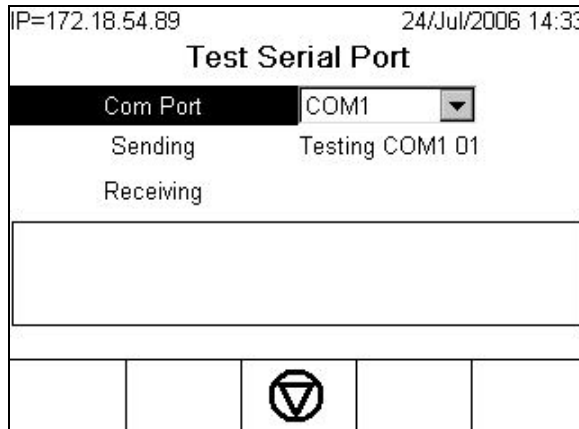

Figure 3-26: Serial Test Screen
- Press the START softkey  and a data string is output repeatedly approximately once every 3 seconds (Figure 3-26). The data is: [Testing COMx: nn] where “x” is the COM port and “nn” is an incrementing value beginning at 00 and continuing to 99. Each transmission increments this number by one.